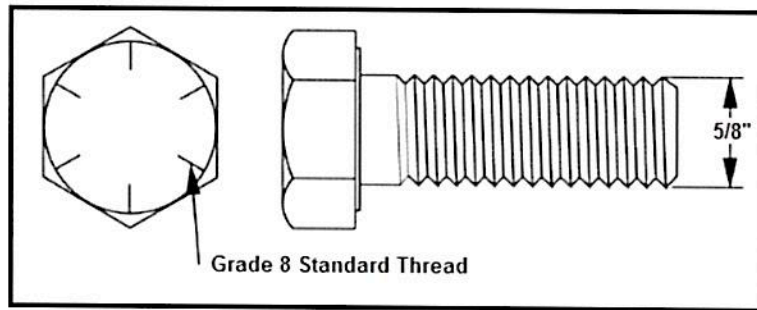

Fig. 2 5/8-11 grade 8 fastener
3. A 5/8-11 grade 8 fastener can be identified by the marking on the bolt head as indicated in Fig. 2.